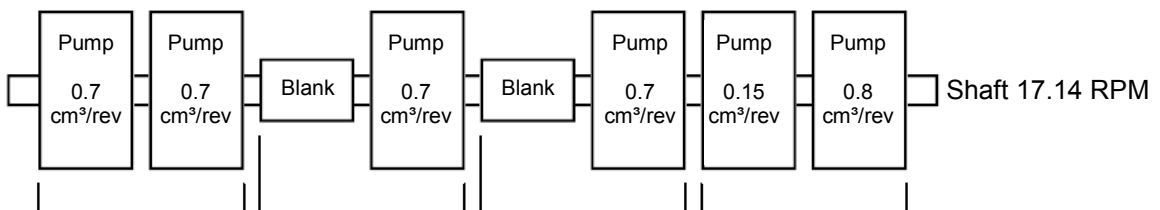

Fig. 10
- Using two 0.7 cm3/rev pumps (2 x 0.7 = 1.4), establish an RPM of 17.14 (24 ÷ 1.4 = 17.14 RPM). (See Fig. 10).
- Since the 2nd and 3rd applications (12 g/m2) are exactly half of the first, select one 0.7 cm3/rev pump and block off the other pump location (see Fig. 10).
- 67% of the 1.4 cm3/rev pump is 0.94 cm3/rev. The closest pump size available is 0.8 with a 0.15 cm3/rev (0.8 + 0.15=0.95 cm3/rev), (see point “Vector Pump Options for Velocity” and Fig. 10). The accuracy has been improved from 3% to 1% of target volume in comparison to example 1 above.